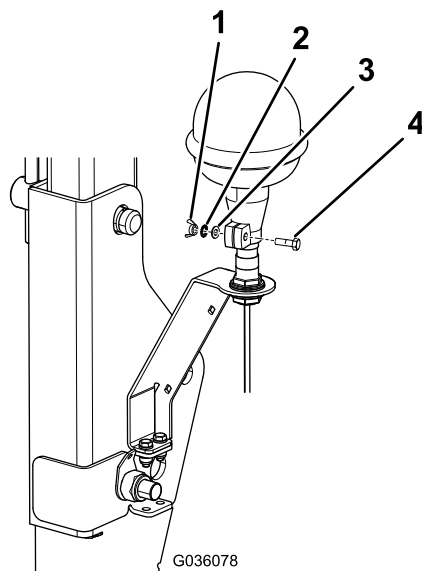

Figure 7
6. Tighten the wing nut on the clamp (Figure 7).